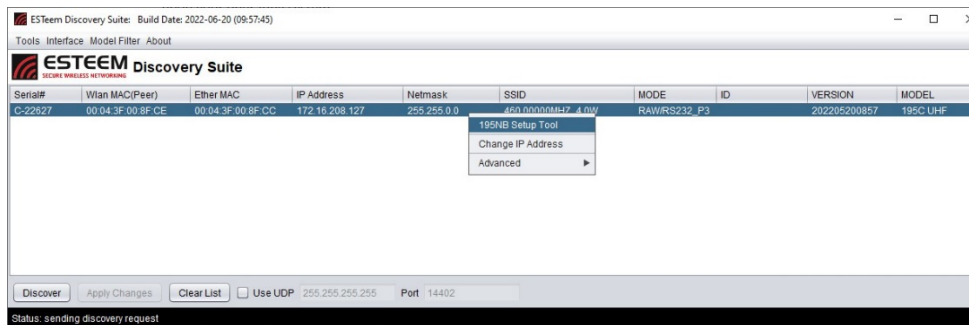

Figure 3: Opening Radio Configuration Software
5. If changes were made to the IP address, you will need to press the *Discover EST Modems* button again to show the changes. Right-mouse click on the 195M/H/C (Figure 3) and select *Configure Radio* button to begin programming.